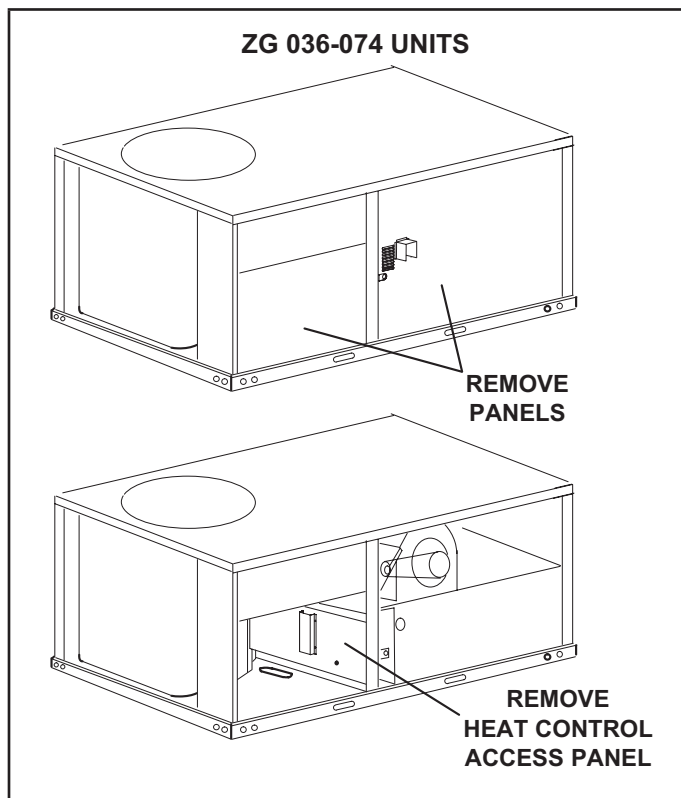

Figure 1
- 2 - Open access panels as shown in figure 1. On LG/LD/KG/SG/SD units, remove the mullion between the heat and compressors sections.